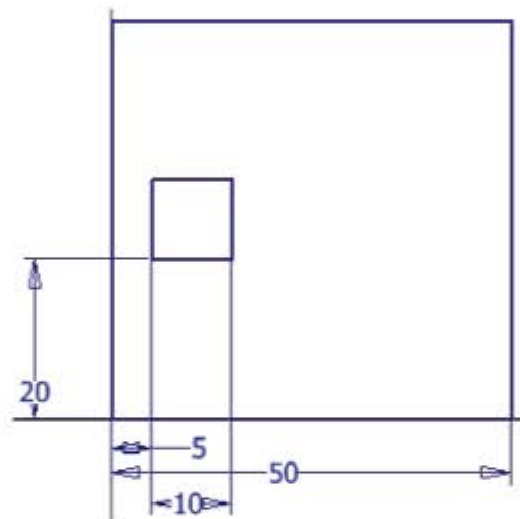

Figure 4–33
7. Which of the following are required when creating a rectangular pattern in two directions, as shown in Figure 4–33? (Select all that apply.)